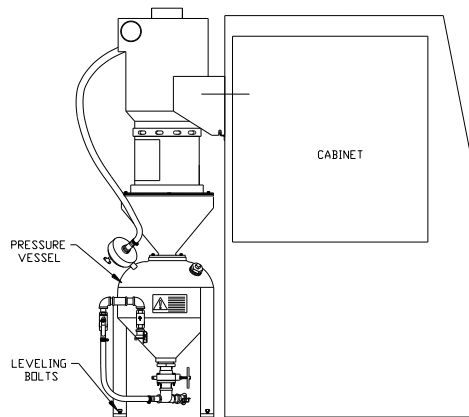

Figure 4. Pressure Vessel Installation
Step 5: Move the pressure vessel into position as shown in Figure 4.